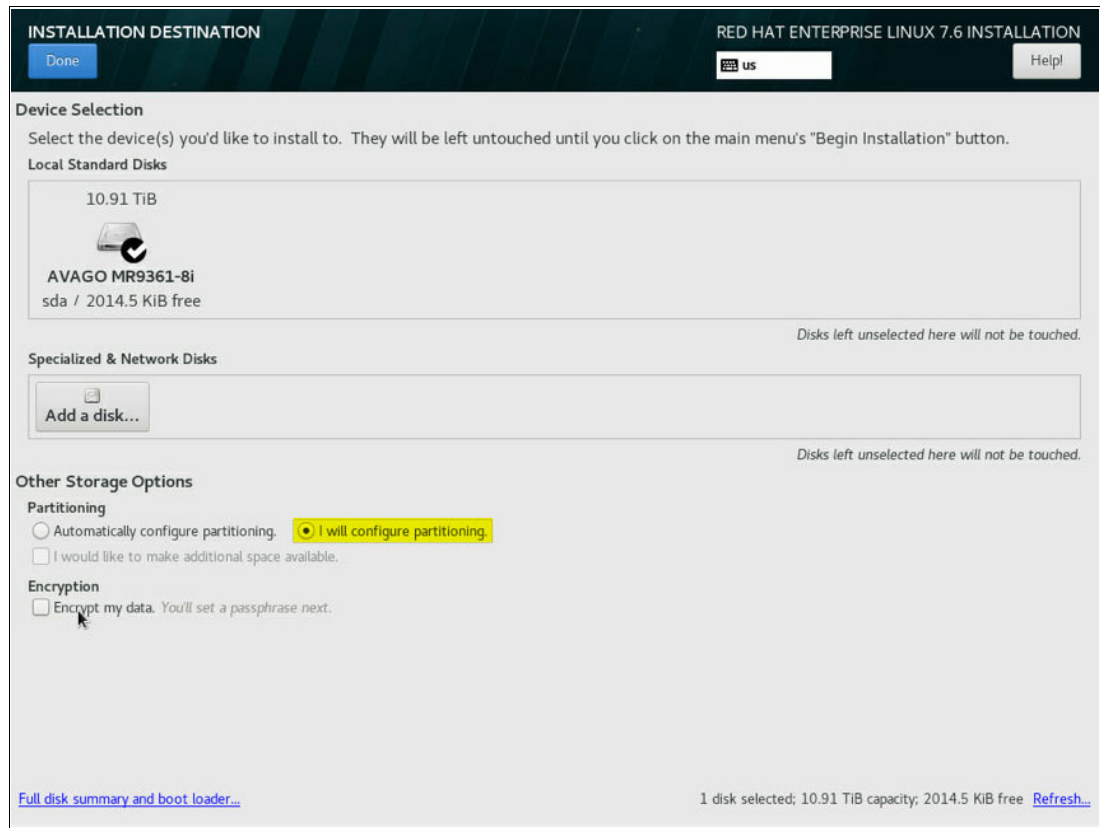

Figure 4-28 Red Hat Enterprise Linux 7.6 Installation window: Device Selection
2. Click **Done**, as shown in Figure 4-28.